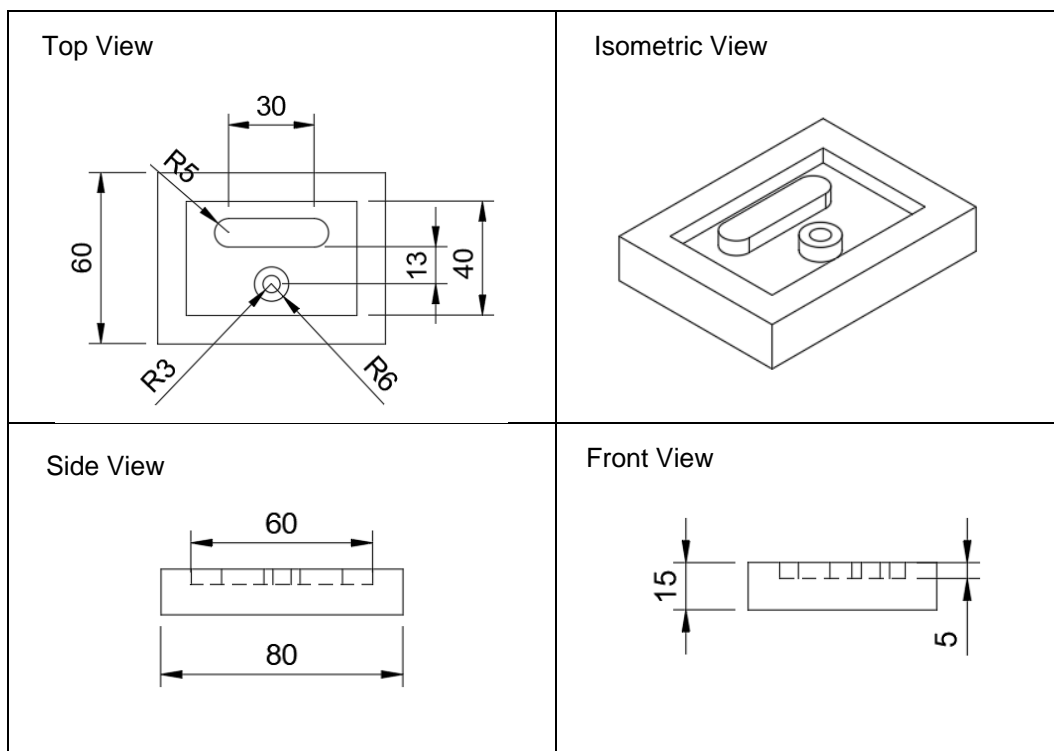

Figure 2[c]: Aluminum part for CNC machining
- [c] An engineering component made of aluminum as shown in Figure 2[c] need to be machined using CNC milling machine by Company A. Using standard G-code programming, prepare a complete code for machining the part that would give the shortest time and optimum machining sequence. You need to justify your approach and answer. State all conditions and assumptions you have used.